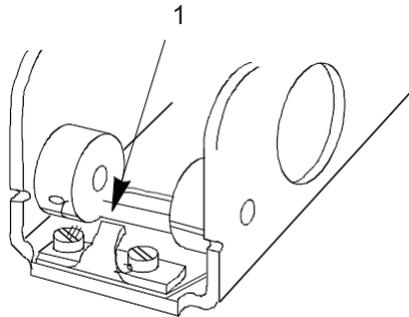

Figure 21. Elevator Assembly.
30. Visually inspect elevator assembly (Figure 21, Item 1) for bent or broken cross bar. If not damaged, do not remove.